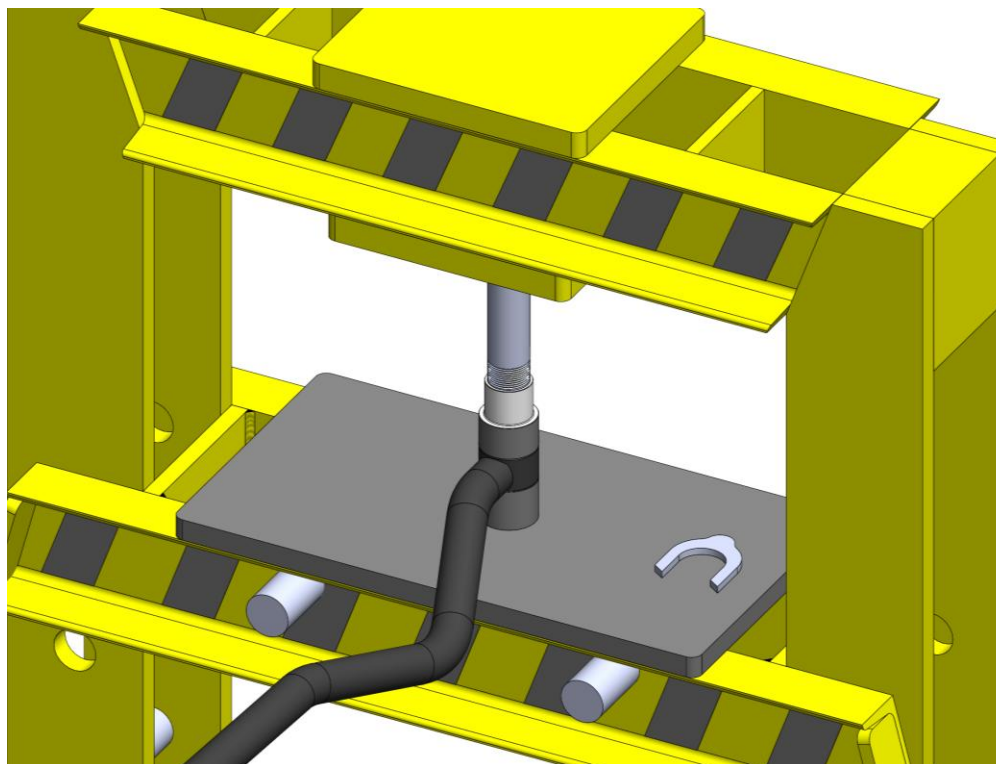

Figure 10: Sleeved end of the track bar with worn bushing pressed out and replaced
5. If you are replacing the other track bar bushing (located in the welded, sleeved housing) Please repeat Steps 1-4, but without the use of the "C" spacer. The press tool will bottom out on the sleeve of the track bar alone, so you do not need to use the "C" spacer in this application. See Figure 10 below.